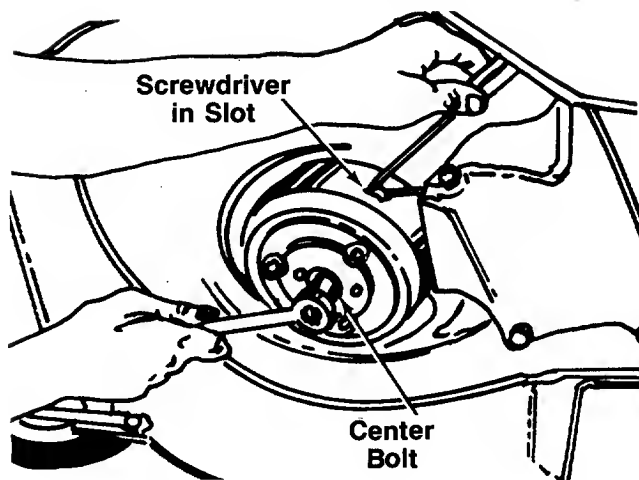

FIGURE 28.
- a. Insert a screwdriver into the slot provided in the blade brake/clutch housing where the control cable enters housing. See figure 28.